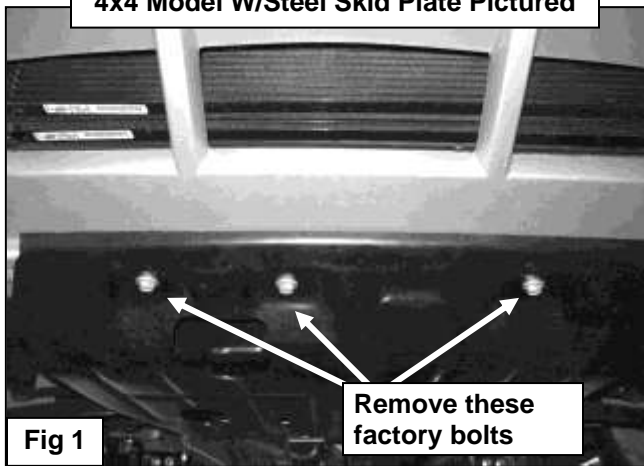

Fig 1
- a. Remove the three 10mm hex bolts securing the front of the steel skid plate to the lower part of the bumper, **(Figure 1)**.